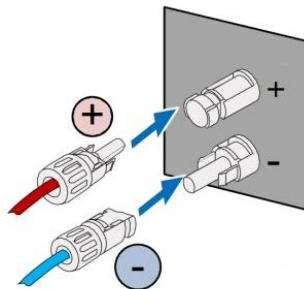

Fig 5.4 PV DC string connected to the inverter
(1) Connect the positive and negative connectors of the PV strings that have been connected to the corresponding positions of the inverter DC interface, and confirm the tight connection, as shown in Fig 5.4;
(2) When disassembling the DC connector from the inverter, insert the tip of a "one" screwdriver into the raised hole in the middle of the connector, and force the movable end of the connector to withdraw.